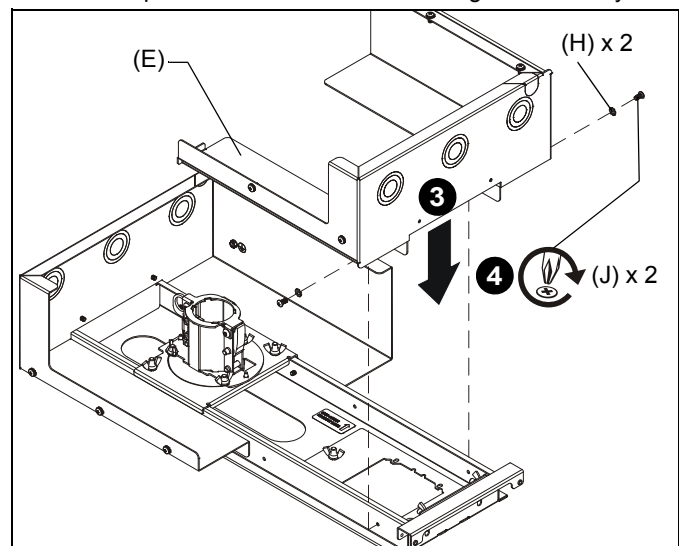

Figure 4
3. Lower box body-right (E) onto SYSAU ceiling plate (not included). (See Figure 4)
4. Attach box body to SYSAU ceiling plate using two 10-24 x 3/8" Phillips pan tapping screws (J) through two #10 lock washers (H). (See Figure 4)